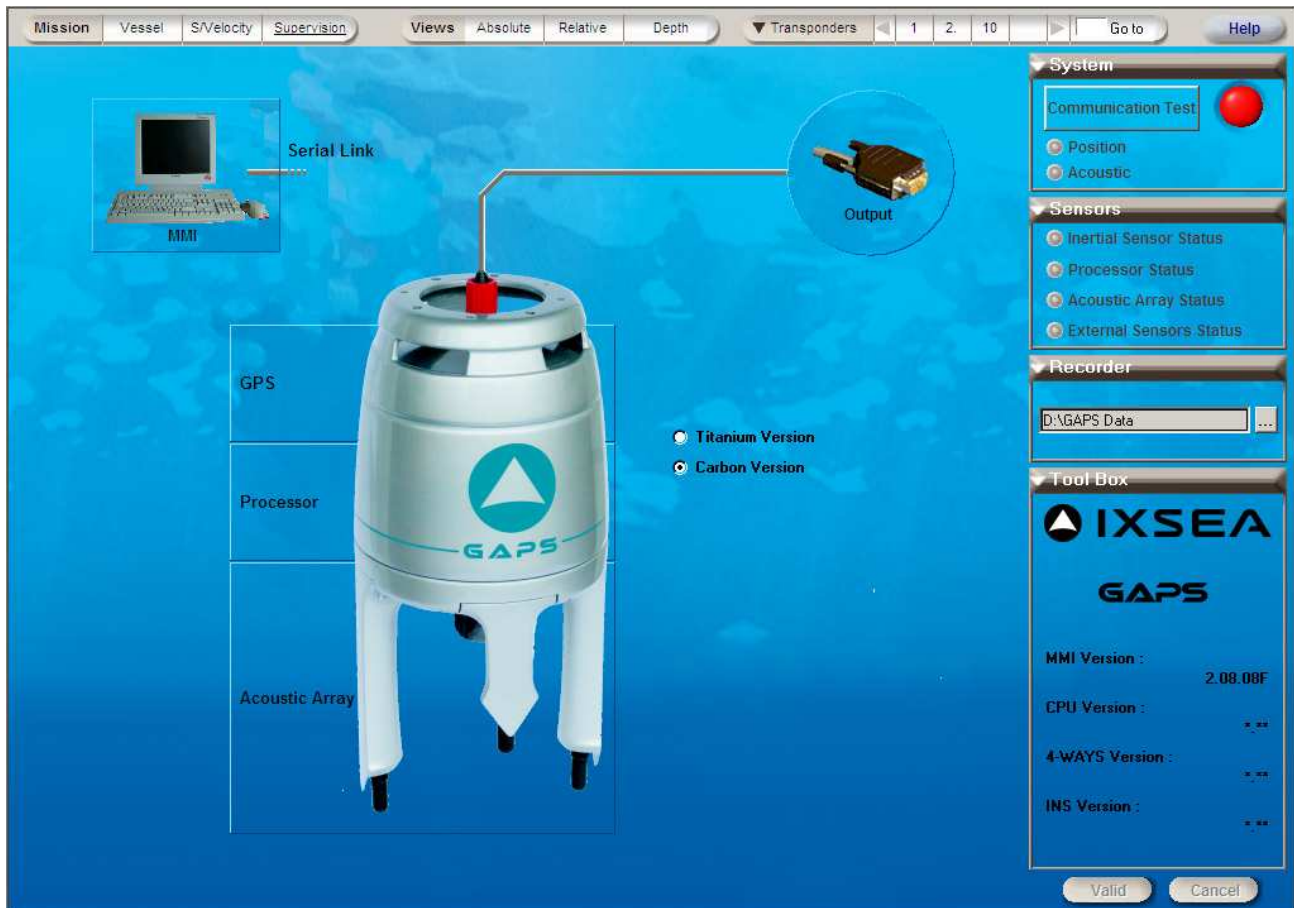

Figure 38 - Supervision Window
In the displayed window (see Figure 38), you can configure or display:
1. In the **Supervision** display area (see Figure 38), click on **Serial Link** label.
1.	In the Supervision display area (see Figure 38), click on MMI label. The associated tool box appears.
1. In the **Supervision** display area (see Figure 38), click on **GPS** label.
1. In the **Supervision** display area (see Figure 38), click on **Processor** label:
1. In the **Supervision** display area (see Figure 38), click on **Output** label.